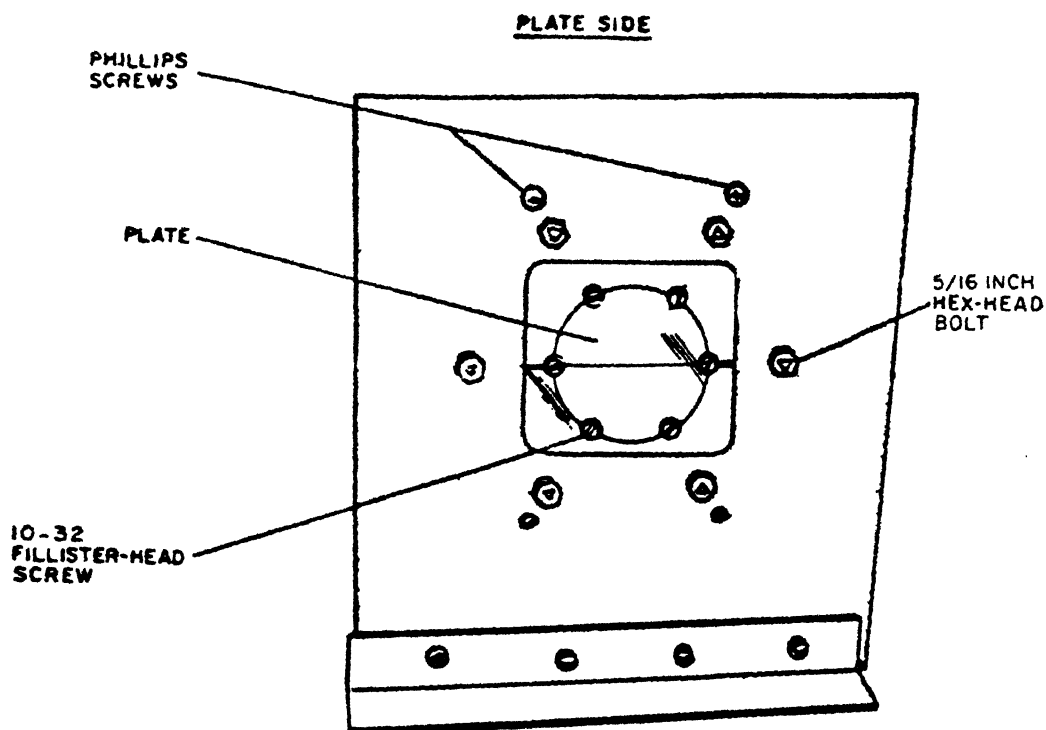

FIGURE 15
- b. Place screw and washer through one of the remaining holes with the head of the screw on the plate side of the fixture. See figure 15.